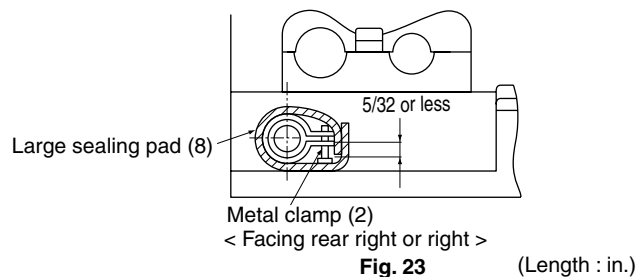

Fig. 23
- Screw the screws on the metal clamp bracket until there is 5/32 in. left. (Pay attention to the direction of the attachment to prevent the metal clamp bracket from coming into contact with the suction grille.) **(Refer to Fig. 23)**
- Insulate the metal clamp bracket and drain pipe from the bottom using the large sealing pad (8). **(Refer to Fig. 23)**